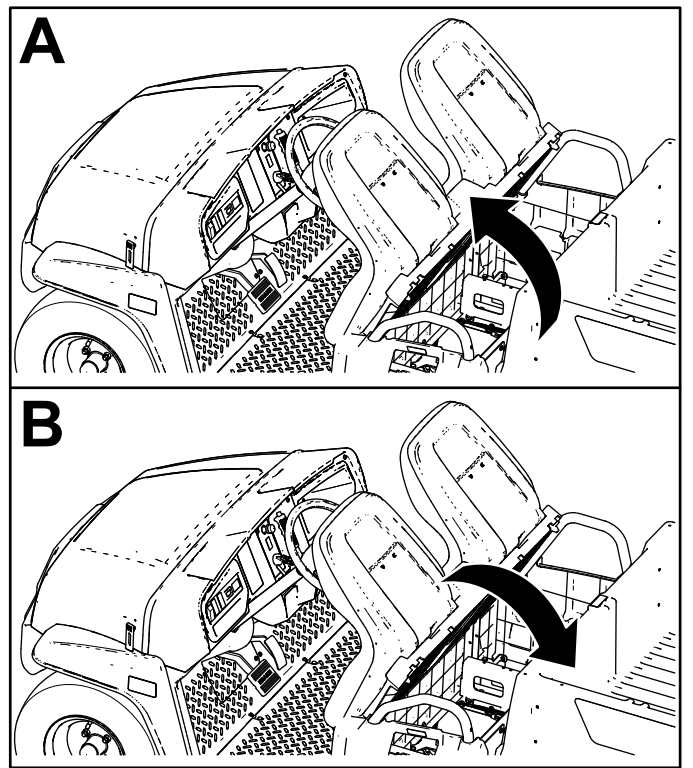

Figure 23
To raise the seat assembly, push the seat assembly forward until it rests on the steering wheel (Figure 23).
To lower the seat assembly, push the seat assembly rearward until it seats back into the original position (Figure 23).
1. Push the seat assembly forward to the raised position (Figure 23).